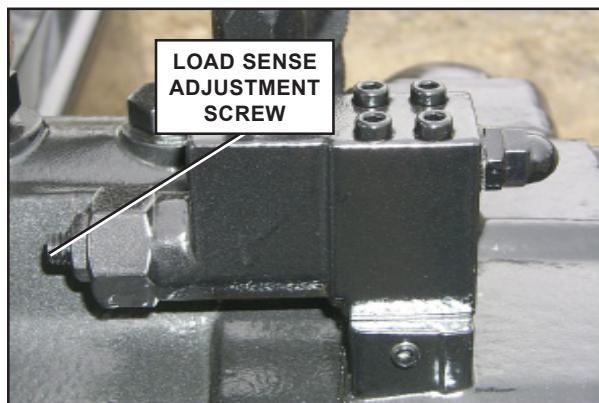

FIGURE 13.24
5. Connect one gage to the load sense port (LS) and the second one to the pressure port (PP).
8. The pressure port gage (PP) should indicate 450 PSI and the load sense (LS) 0 PSI. If the pressure does not correspond, loosen the lock nut (figure 13.24) and turn the adjustment screw to adjust the pressure to 450 PSI.